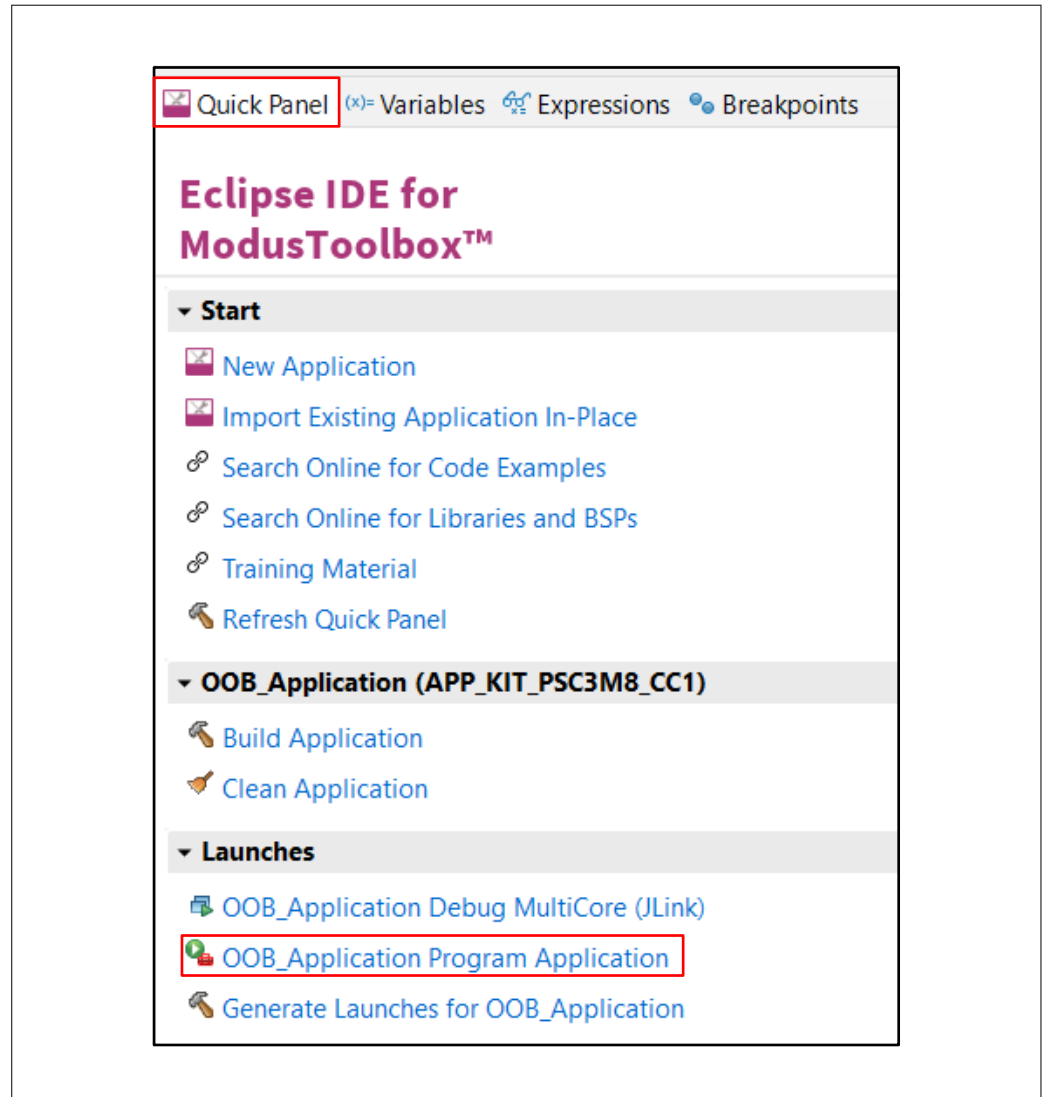

Figure 8 Programming in ModusToolbox™ software
- b. From **Quick Panel**, click **<App_Name> the Program (JLink)** configuration from **Launches** section, as shown in Figure 8. ModusToolbox™ software has an integrated debugger also.